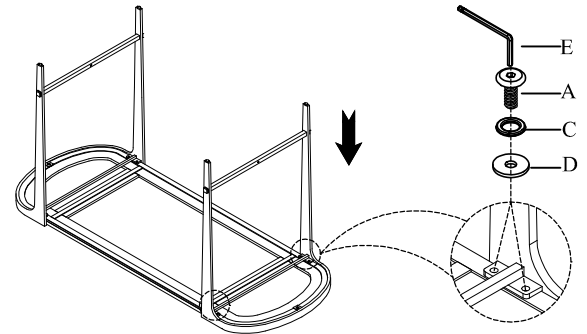

Fig 2
3. Attach the support rail the leg frame to using bolt (B), and tighten with the Allen wrench (F) as shown Fig 2.